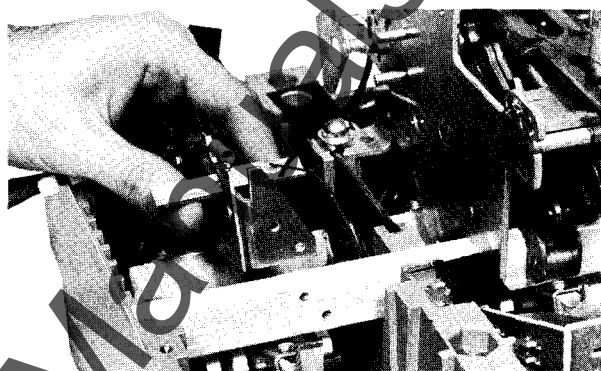

Fig. 24.
4. Position the auxiliary switch assembly so that the tapped mounting holes on its bracket line up with the through holes in the arm stop (Fig. 24).